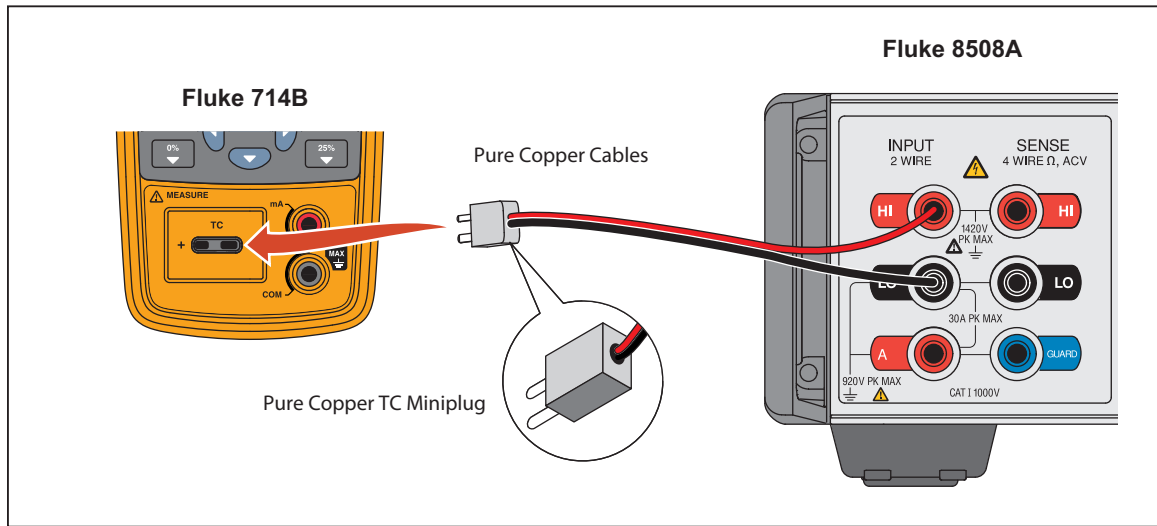

Figure 6. Verify 714B mV Source
1. Make connections between the 714B and the 8508A with copper wire, as shown in Figure 6.